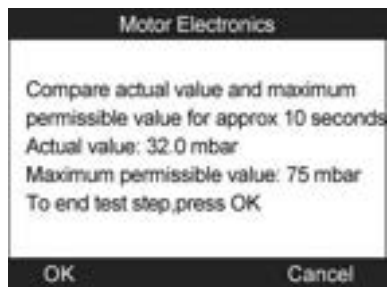

Figure 11.40
- c) Check the exhaust backpressure with engine running idle. The tool will read off the actual backpressure value and compare with the upper limit (Figure 11.40). Select **OK** to continue the test or **Cancel** to return to previous menu.